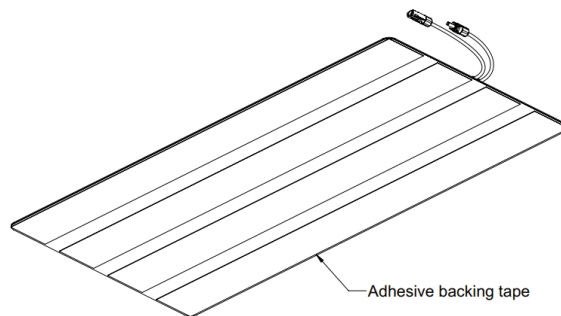

FIGURE 1
2. Peel back a small portion (~5") of the nonstick layer of the adhesive backing tape (Figure 1) on the top or bottom of the solar module. Place the side of the panel with the exposed adhesive in the desired panel location.